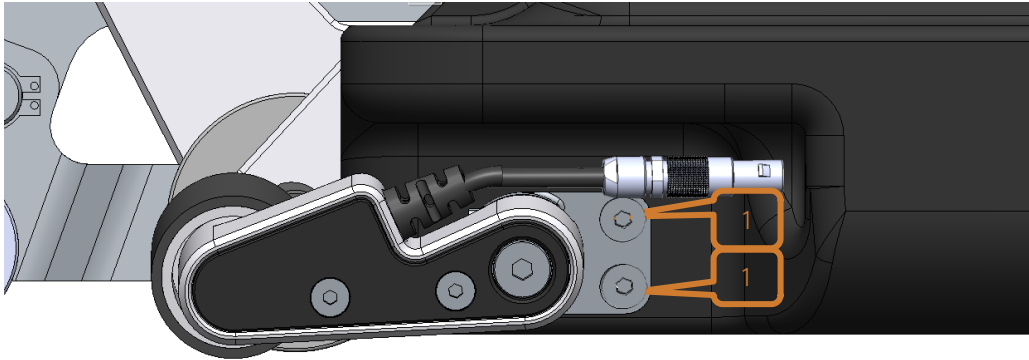

Figure 12: ENC-PS-HD installation on Pipescan HD
To do so, position the encoder's attachment bracket in its slot and fasten using the two Allen screws (1), as shown in Figure 12.